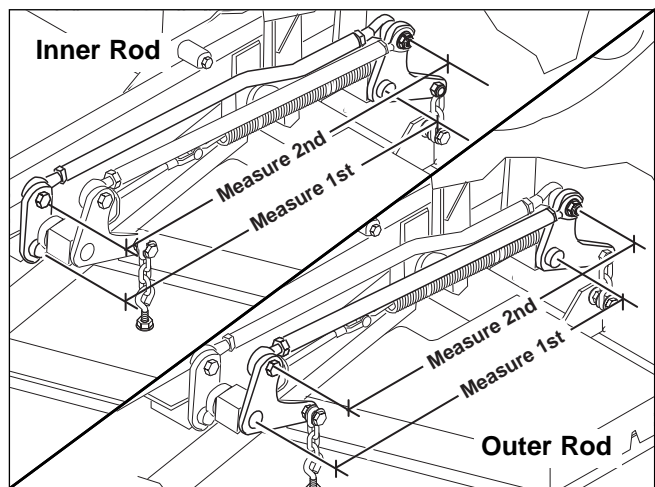

Figure 38. Measure the Inner & Outer Lift Rods
2. To check the inner lift rod timing, measure and record the distance between the inner lift pivots and the inner rod pivots. Repeat for other side of unit. See Figure 38.
3. To check the outer lift rod timing, measure and record the distance between the outer lift pivots and the outer rod pivots. Repeat for other side of unit. See Figure 38.